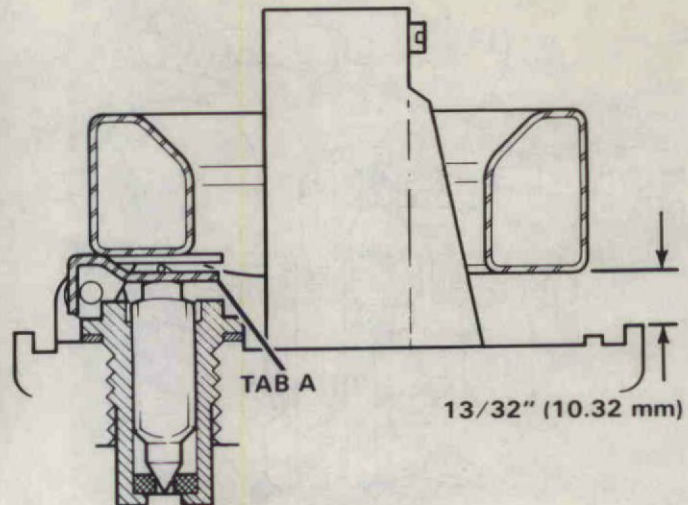

Figure 18. Adjusting Float Height (Fuel Level).
A. Hold carburetor upside down so float weight closes needle valve. Figure 18.